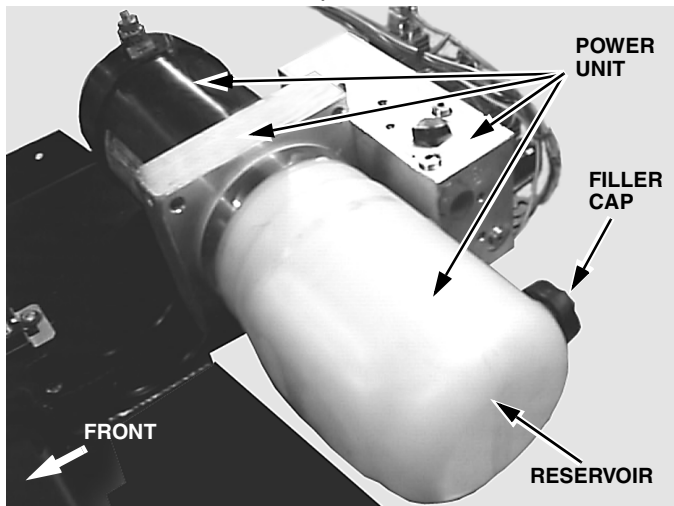

Figure 2-2
7. Lift the power unit and rotate it toward the rear of the pump platform (See Figure 2-2).
pick-up tube and be sure to keep the tube in this same position as the filter is removed and installed (See Figures 2-2, 2-3).